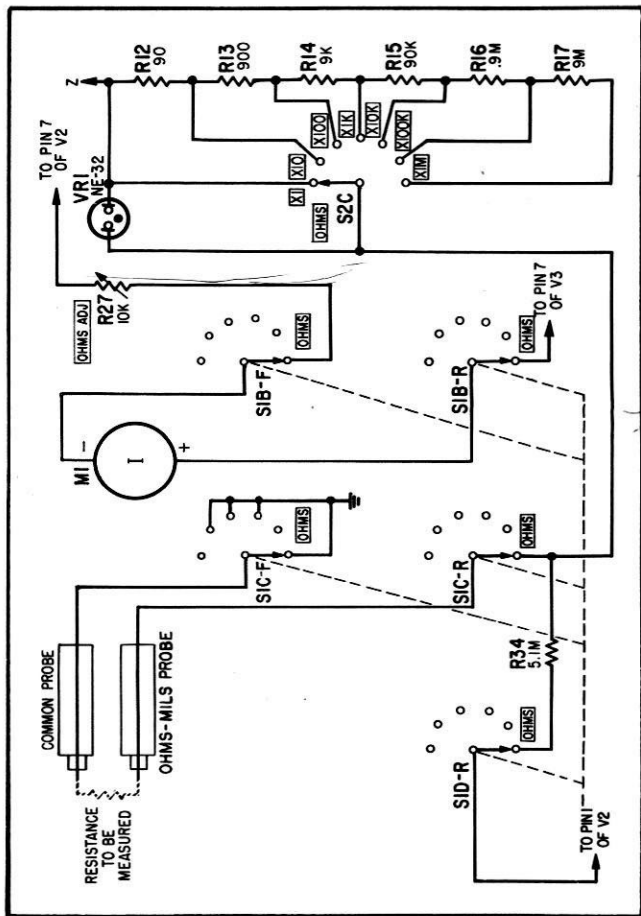

Figure 4-5. Ohmmeter Circuit, Schematic Diagram
d. **OHMMETER CIRCUIT** (see figure 4-5). - The ohmmeter circuit consists of a group of precision resistors in the ohmmeter multiplier connected in series with the internal dc voltage supply.
(1) The ohmmeter receives its voltage from the regulated heater supply, thus eliminating the problem of periodic battery replacement.
(2) The ohmmeter supply is at a 10 ohm impedance. When a resistance of 10 ohms is being measured, one half of the voltage is across the resistance and one-half is across the power supply, thus giving a half-scale indication or 10 ohms.
(3) When the ohmmeter test leads are shorted together the voltage applied to the bridge input circuit is zero. When the test leads are disconnected from each other, the full voltage of the ohmmeter power supply is applied to the bridge circuit. Under this condition the sensitivity of the bridge circuit is varied by the OHMS ADJ. control until the dc voltage which is applied to the bridge is sufficient to cause the meter to indicate full scale or "infinity" ohms.
(4) When an unknown resistance is connected between the OHMS-MILS probe and the COM probe, it is placed in series with one or more of the precision resistors in the ohmmeter multiplier. The resulting voltage drop across the unknown resistance is proportional to the value of the unknown resistance. This voltage drop is applied to the grid of the bridge circuit. The resultant meter deflection is indicated in terms of ohms.
(5) Lamp VR1 is connected across the input leads so that if a voltage is accidentally fed to the ohmmeter input the lamp will conduct causing fuse F1 to blow and prevent dam-